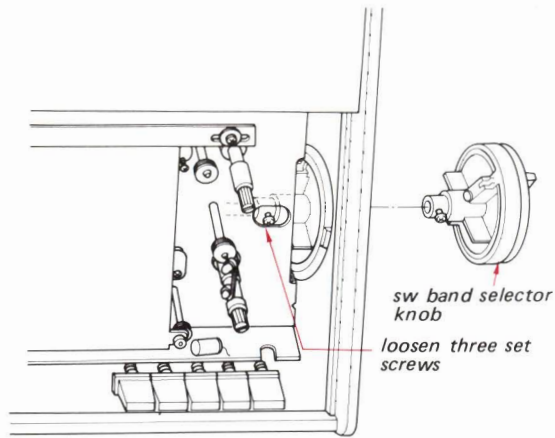

Fig. 2-5
8. Loosen the three set screws and pull off the sw band selector knob as shown in Fig. 2-5.